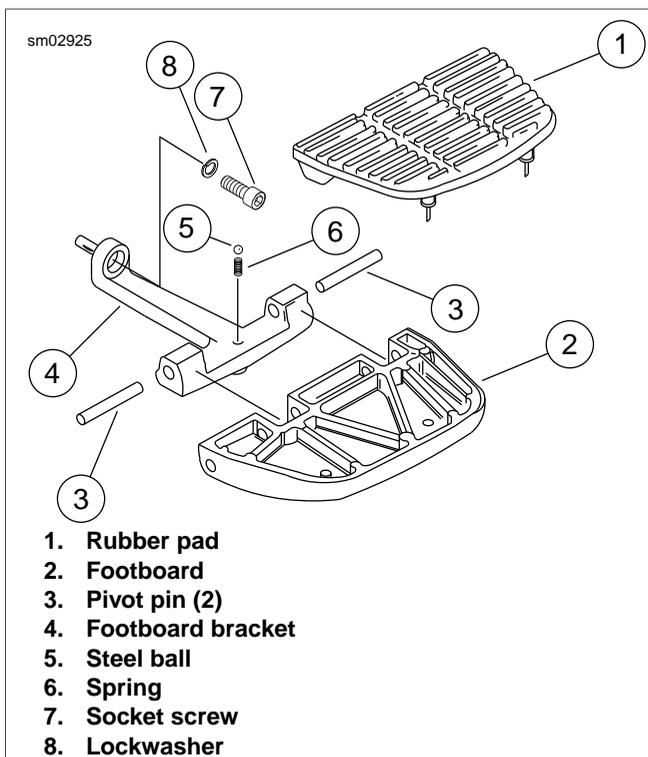

Figure 2-176. Passenger Footrest (All Models Except FLHX)
up through holes in footboard. Remove pad. See Figure 2-176.
2. Place spring into hole in footboard bracket. Place ball on top of spring. See Figure 2-176.